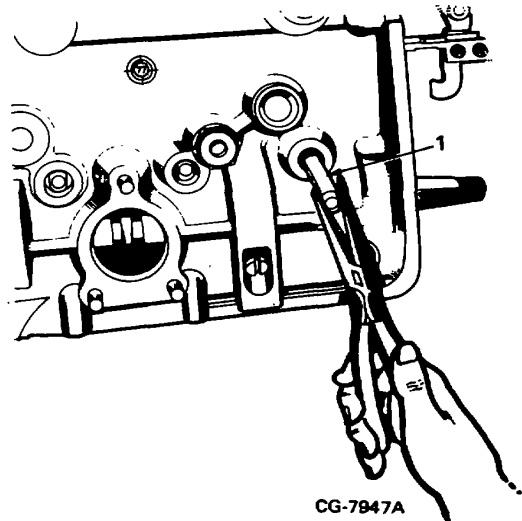

Figure 20. Removing Tappet Spacer Block
- 16. Remove tappet spacer block from side plug hole with long nose pliers (Figure 20).